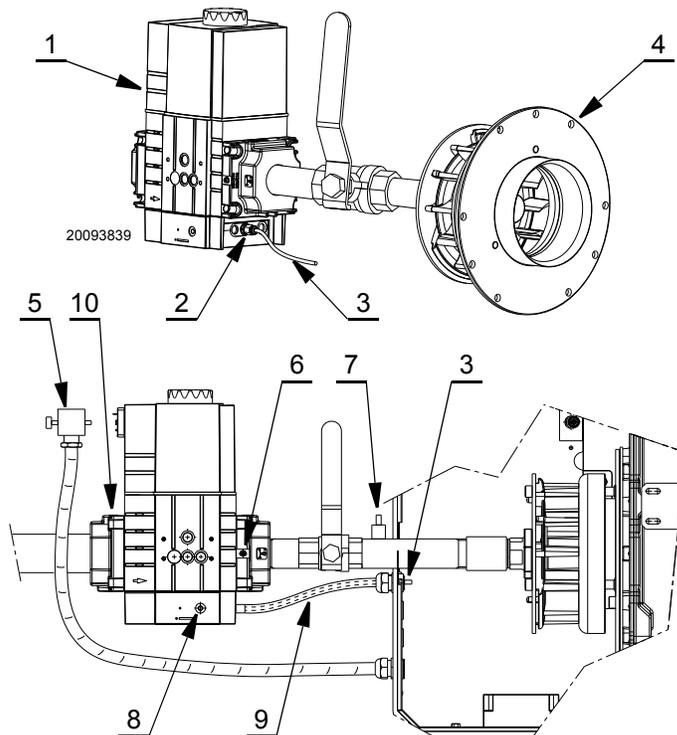

Fig. 170
Turn the screw V1 of the gas valve lightly towards the “+” sign (Fig. 170 at page 57). If, however, at the end of the safety time the burner starts but then switches off, the burner goes into lockout and the display shows **Loc:7** blinking (disappearance of the flame when in operation).
- Turn the screw V1 towards the “+” sign (Fig. 170 at page 57).
- Check the appearance of the flame, if possible, or the value of the CO and CO₂ to understand whether the burner has been sufficiently calibrated (first maximum calibration). If necessary use the screw V2 of the gas valve (turn towards the “+” sign to increase the gas, towards the “-” sign to decrease the gas) (Fig. 170 at page 57).
- Check the appearance of the flame, if possible, or the value of the CO and CO₂ to understand whether the burner has been sufficiently calibrated (first maximum calibration). If necessary use the screw V1 of the gas valve (turn towards the “+” sign to increase the gas, towards the “-” sign to decrease the gas) (Fig. 170 at page 57).
- to increase the gas delivery and the CO₂: turn the V1 screw towards the "+" sign (Fig. 170);
- to reduce the gas delivery and the CO₂: turn the V1 screw towards the "-" sign (Fig. 170);
Key (Fig. 170)